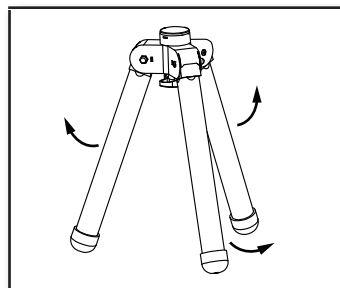

Figure 4
1. Fully extend the tripod legs and place it on a firm, level surface. (Figure 4)